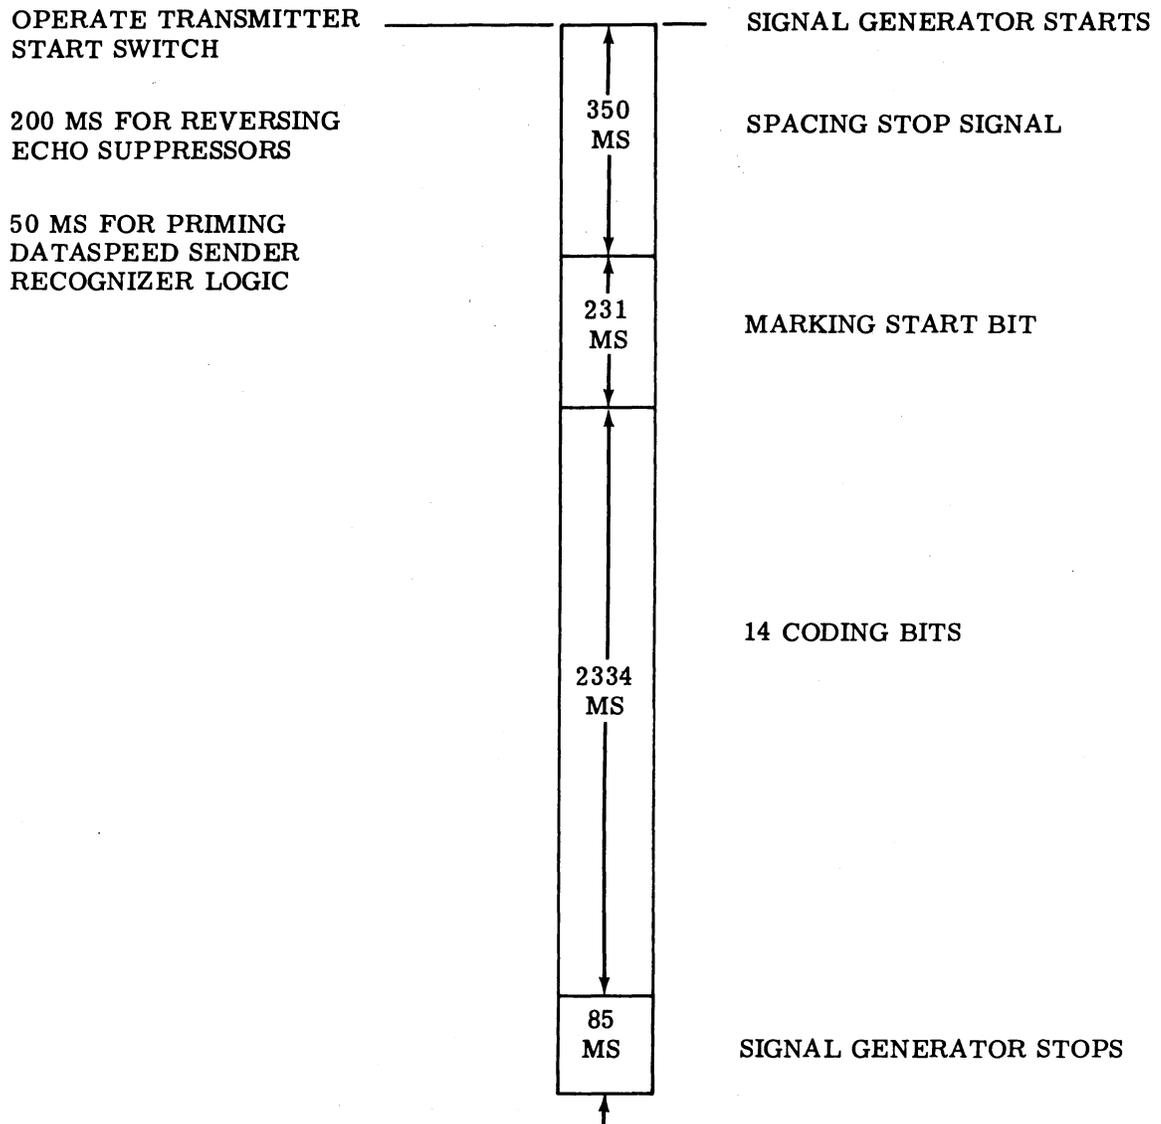

Figure 4 - Timing Diagram for Discrete Calling Generator
3.03 Refer to Figures 4 and 5 for timing diagrams of the control logic.